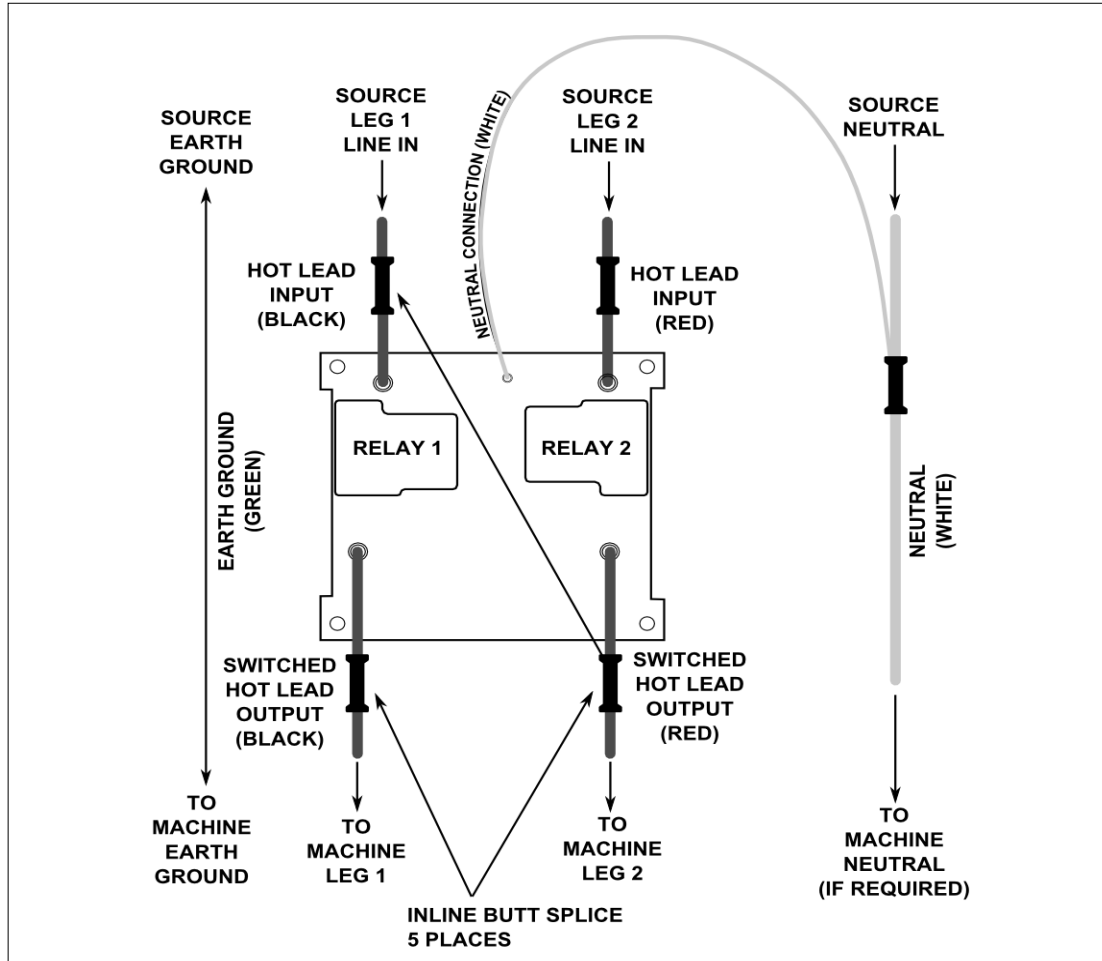

Figure 2-A
A single white "neutral" wire, two black "hot" wires and two red "hot" wires. Select which side of the PCB board you would like to use for each power leg. The SafetyGate Commercial uses the identity of **Line In 1** and **Line In 2**. Connect the neutral line of both your power source and, if required, your machine's neutral input line to the single white neutral wire of your SafetyGate Commercial 2L3P PCB using one of the supplied Inline Butt Splice connectors. (see illustration Fig 2-A)
- 4) Connect your power source's "Hot" #1 lead wire to the SafetyGate PCB's **BLACK** "Line 1 input" wire using one of the attached Inline Butt-Splice connectors. (see illustration Fig 2-A)
- 5) Connect the SafetyGate PCB's **BLACK** "Line 1 Out" wire to your machine's #1 "Hot" lead input wire using one of the attached Inline Butt-Splice connectors. (see illustration Fig 2-A)
- 6) Now repeat the process using the Line 2 leads. Connect your power source's "Hot" #2 lead wire to the SafetyGate PCB's **RED** "Line #2 input" wire using one of the attached Inline Butt-Splice connectors. (see illustration Fig 2-A)
- 7) Connect the SafetyGate PCB's **RED** "Line 2 Out" wire to your machine's #2 "Hot" lead input wire using one of the attached Inline Butt-Splice connectors. (see illustration Fig 2-A)